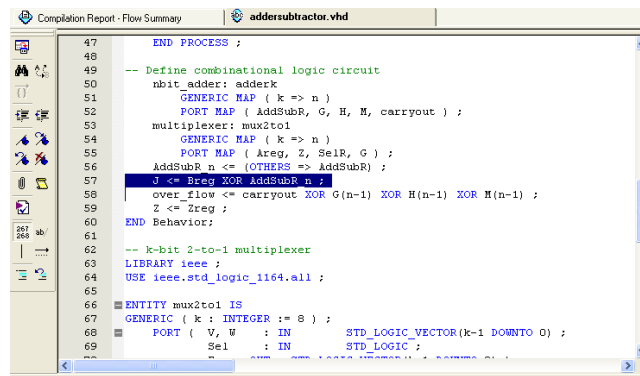

Figure 27: Identifying the location of the error.
3. Double-click on the first error message, which states that variable J is not declared. The Quartus® II software responds by opening the *addersubtractor.vhd* file and highlighting the erroneous statement as shown in Figure 27. Correct the error and recompile the design.